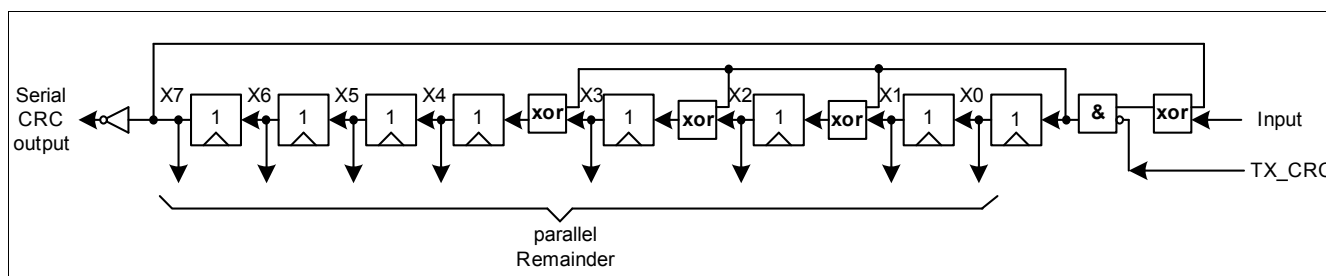

Figure 25 Fast CRC polynomial division circuit
- Generator polynomial:  $X^8+X^4+X^3+X^2+1$ , but for the CRC generation the fast-CRC generation circuit is used (see Figure 25).